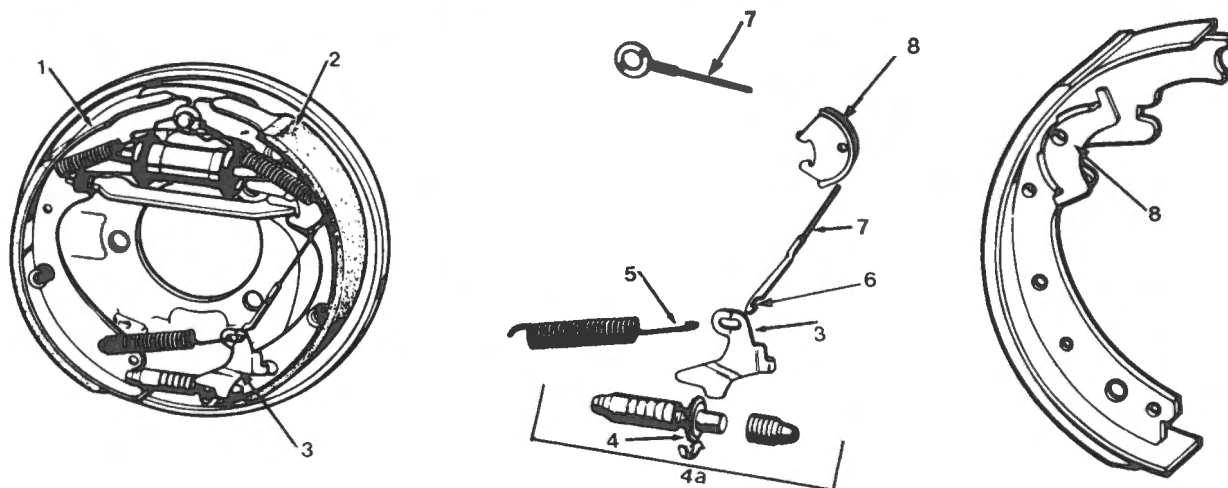

Fig. R-23
- 2 When removing drums, back off the adjusting screw to provide ample shoe to drum clearance. Refer Fig. R-23.
- 1 Before installing the rear brake shoes, assemble the parking brake lever to the secondary shoe and secure it with the spring washer and retaining clip. Refer Fig. R-23.